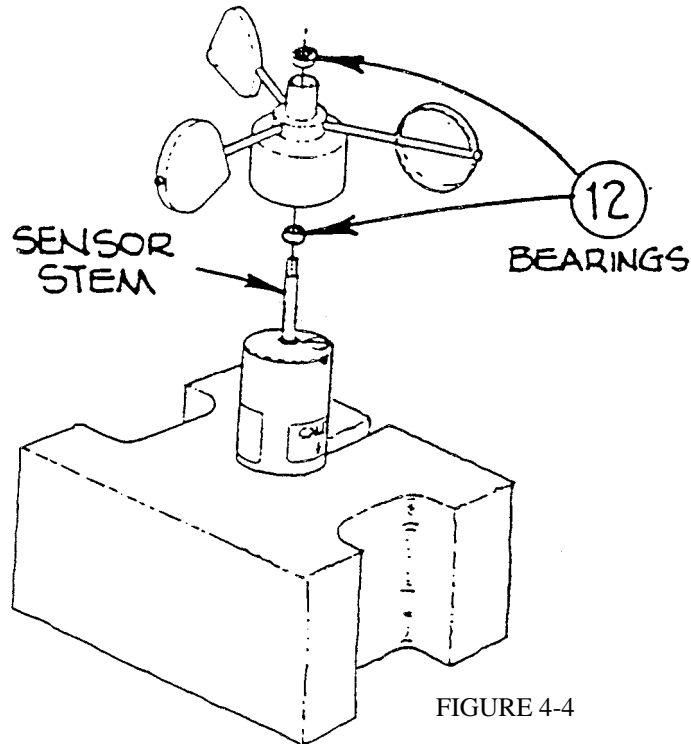

FIGURE 4-4
- H. Refer to Figure 4-4. Remove cup assembly (Item 2). Remove the old bearings. Clean areas of bearing contact using a cotton swab and alcohol.